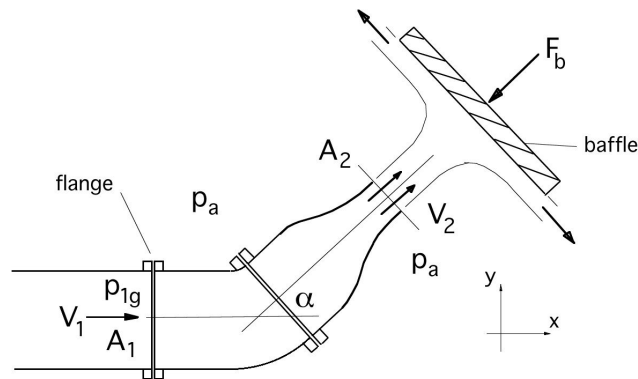

Figure P4.53
4.53 A flange connects a pipe section of inlet area A_1 , as shown in Figure P4.53. The pipe section reduces its area smoothly, and the air flow exits to atmospheric pressure through an area A_2 . The exiting jet impacts a baffle placed normal to the incoming flow. The flow is steady, one-dimensional, and the air has a constant density ρ . The gauge pressure at station 1 is p_{1g} . Ignore the effects of gravity. Show your control volumes and all your working clearly, state all your assumptions, and indicate your coordinate system.